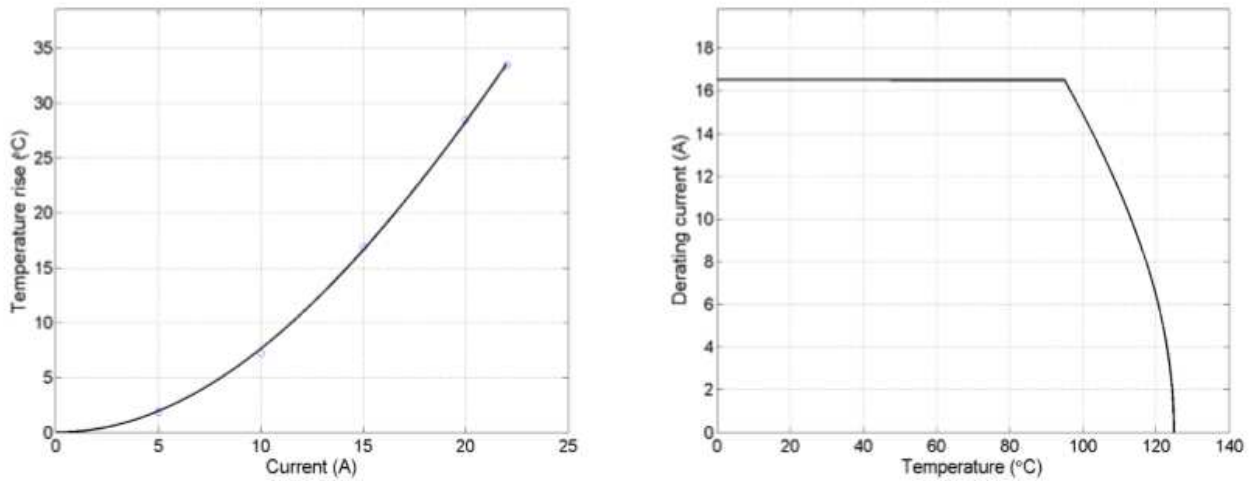

Figure 3- typical derating curve of 2238174-3 AWG14#
2.3 Refer to figure 3 for the curve of 2238174-3 (Faston) with AWG14#.